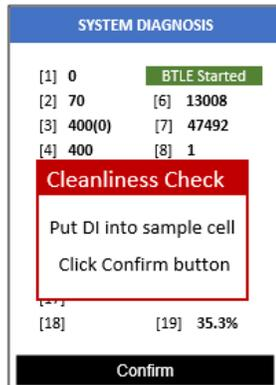

Figure 9.
5. Press **Cleanliness** (). An instruction prompt appears to ask the user to put DI water into the sample cell (Figure 9).